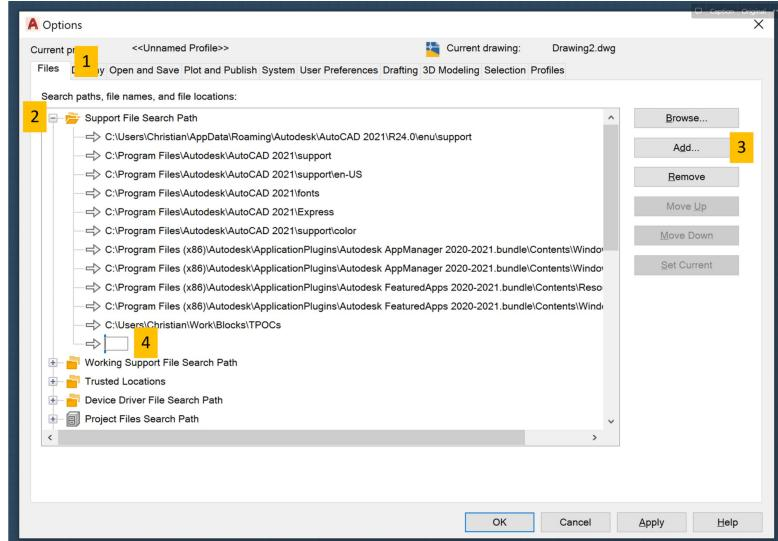

Figure 2: Options Menu within AutoCAD
3. Navigate to the **Files** tab [1] as shown in Figure 2
7. Insert the new file path into AutoCAD by clicking **Add** [3] as shown in Figure 2